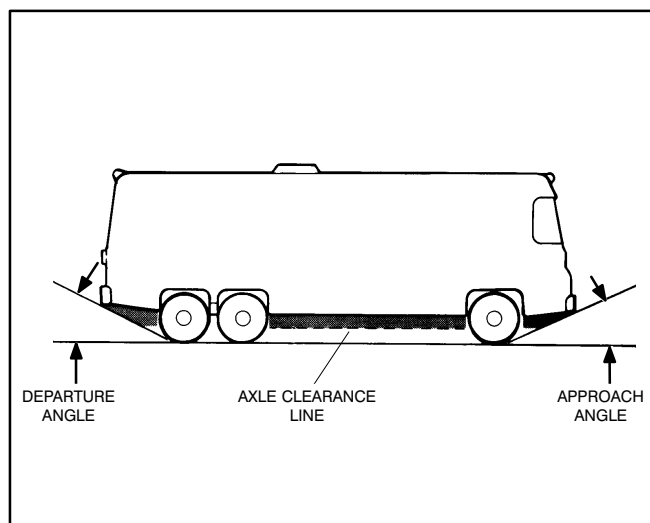

FIGURE 7. VEHICLE CLEARANCES
- A. **Below-Floor Mounting** - Use one of the mounting kits available from Onan (Page 22, 23 or 24). Follow the instructions in the kit and use Underfloor Template 539-1535 to locate the assembly. A plywood or particle board floor must be reinforced with steel to resist the dynamic weight of the genset (Item 1). Do not mount the genset within the approach or departure angles of the vehicle or below the axle line (Figure 7). If the floor is of combustible material such as wood, install a barrier of 26 gauge galvanized steel or equivalent between the floor and the genset.
7. To keep the tailpipe from being damaged, do not route it such that it protrudes into the approach or departure angles of the vehicle or below the axle clearance line (Figure 7).